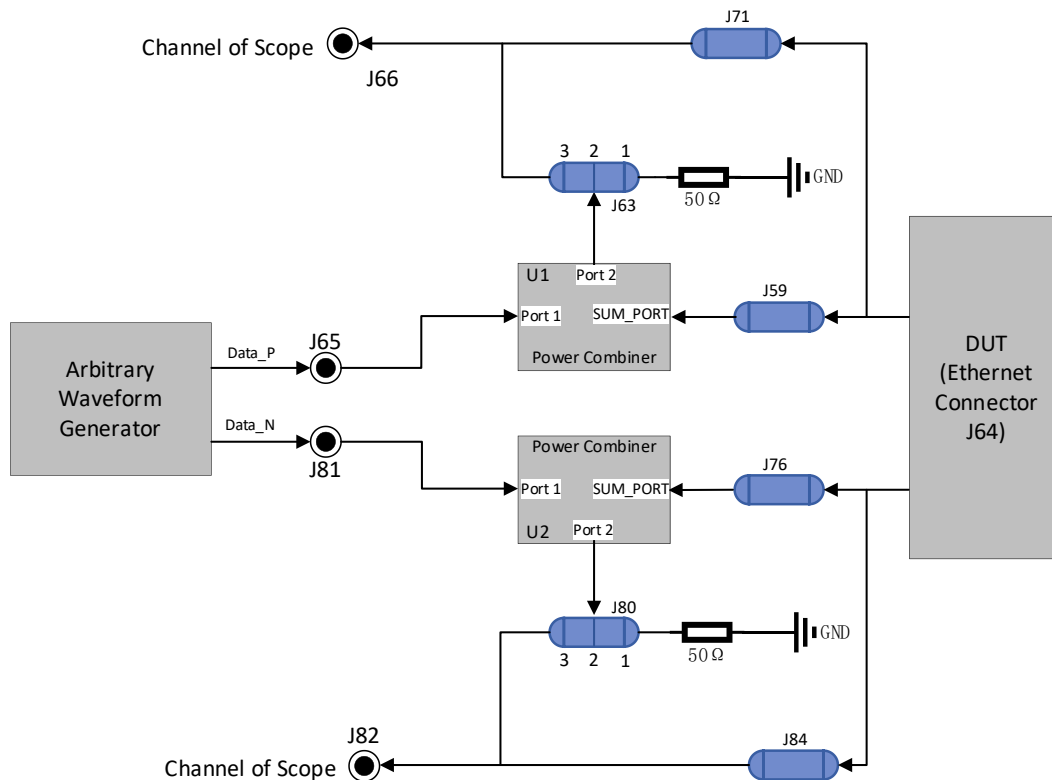
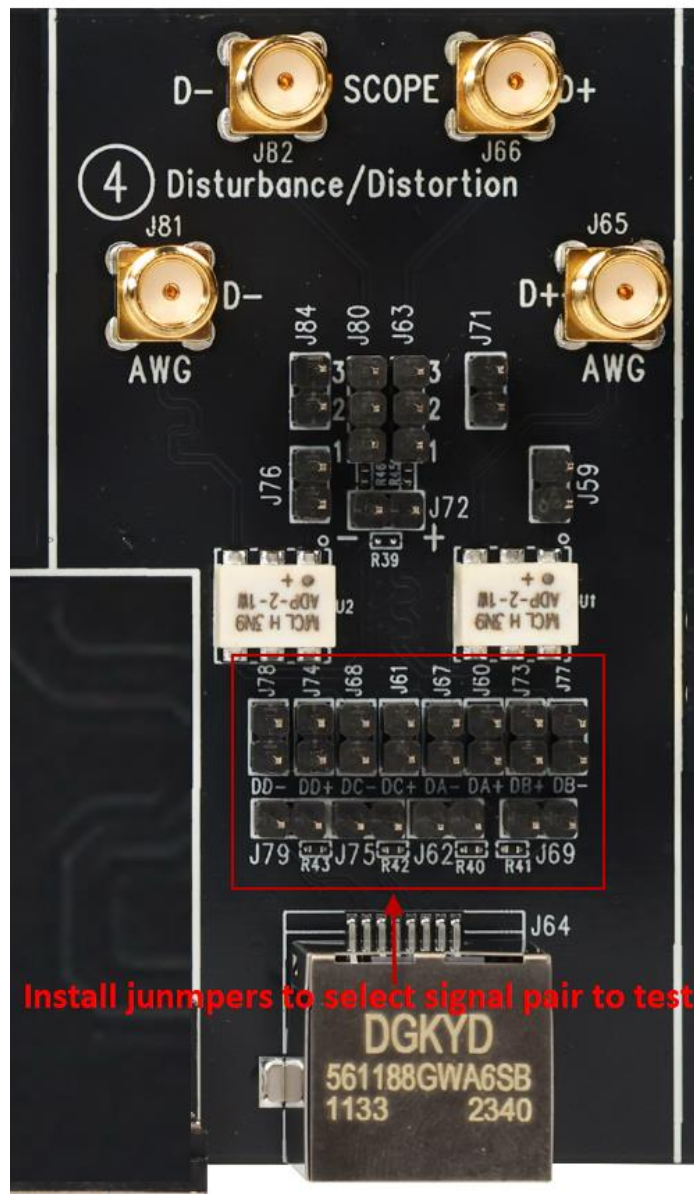

Figure 5-3 The block diagram of circuitry on section ④ of the test fixture
Figure 5-4 Signal Pair Being Tested According to the Installation of Jumpers
On the test fixture, the circuit block diagram for section ④ is shown in Figure 5-3. The types of connectors on section ④ are as follows:
In Figure 5-3, only one of the four pairs of 1000M Ethernet signals can be tested at the same time, the user can install jumpers according to the tested signal pair shown in Table 5-1 and in Figure 5-4.